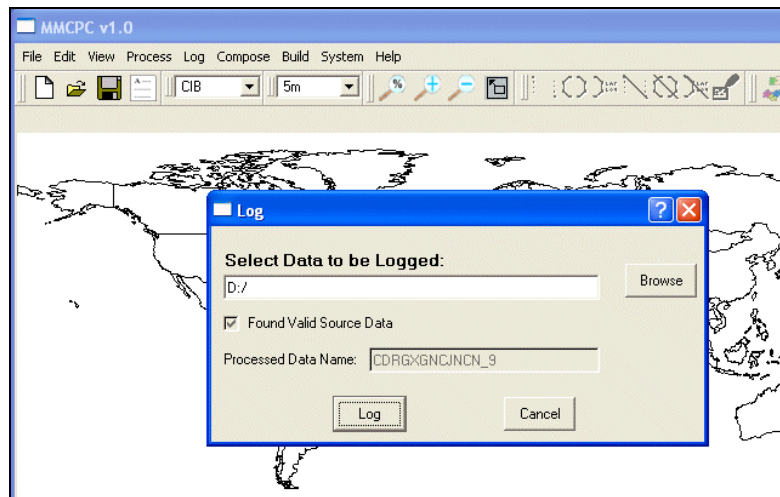

Fig. 40 — Log data browser
2. From the main menu, click Log, then Log Source, or type *Ctrl-L* or *Alt-L* (Section 3.3.5.1). MMCPD will display a browser for defining the directory path to the data. For example, when using CIB data from a CD-ROM drive (Fig. 40), use the browser to locate the CD-ROM drive.